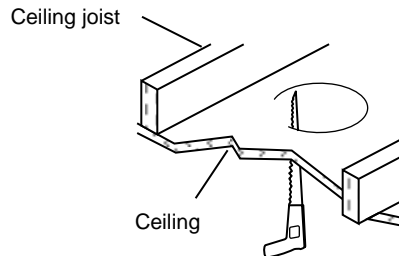

Fig. 1
2. Using a keyhole saw make a 3 1/4" (8.3 cm) hole in the ceiling surface. (Fig. 1) (**Note:** Be sure not to make the hole any larger than specified by the template. An oversized hole may not allow for proper installation.)